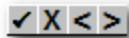

Figure 82: Template Definition Saving Options
- ◆ Saving options appear at the bottom of the graph (*Figure 82*).